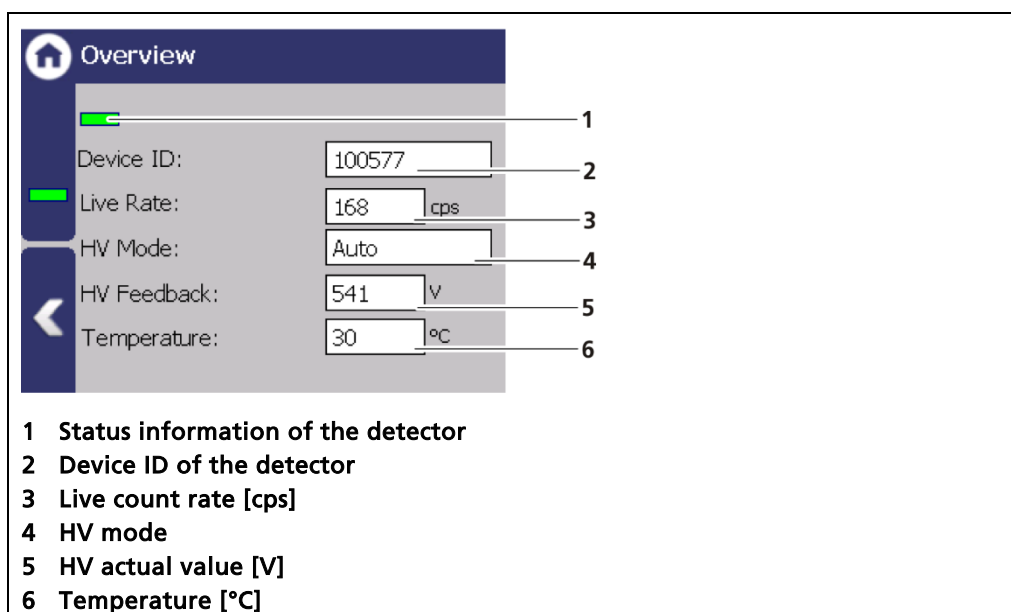

Fig. 63 Overview detector information
Description	Detector description. Is displayed in error messages, event logs and in the menu structure (Fig. 63).
A green bar appears with error-free status of the detector (Fig. 63, item 1).
Live rate	The "Live rate" (Fig. 63, item 3) displays the current, unfiltered count rate.
HV mode	In the field "HV mode" (Fig. 63, item 4), the HV mode is displayed, which is chosen under Device Setup Setup Sensors NAME DETECTOR] High voltage HV settings.
HV Feedback	The field "HV Feedback" (Fig. 63, item 5) displays the actual measured value in volts.
Temperature	The field "Temperature" (Fig. 63, item 6) indicates the current temperature of the detector in C°.